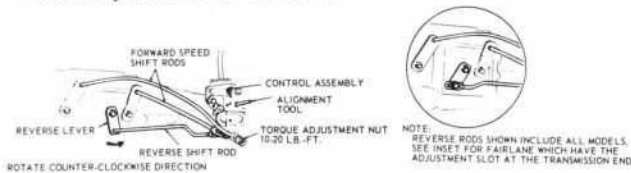

Figure 4—Final Adjustment Details
6. Rotate the reverse transmission lever counterclockwise until it stops as directed in Figure 4.